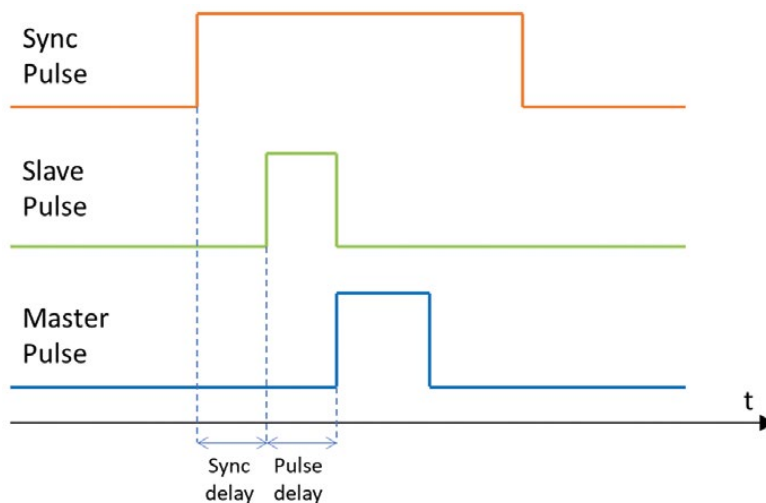

Figure 9: Pulse delay control
15. Pulses delays are controlled in the slave driver control program. “Sync delay” moves slave’s optical pulse relative to the oscilloscope sync pulse. “Pulse delay” moves master’s optical pulse relative to the slave’s optical pulse (fig.9).